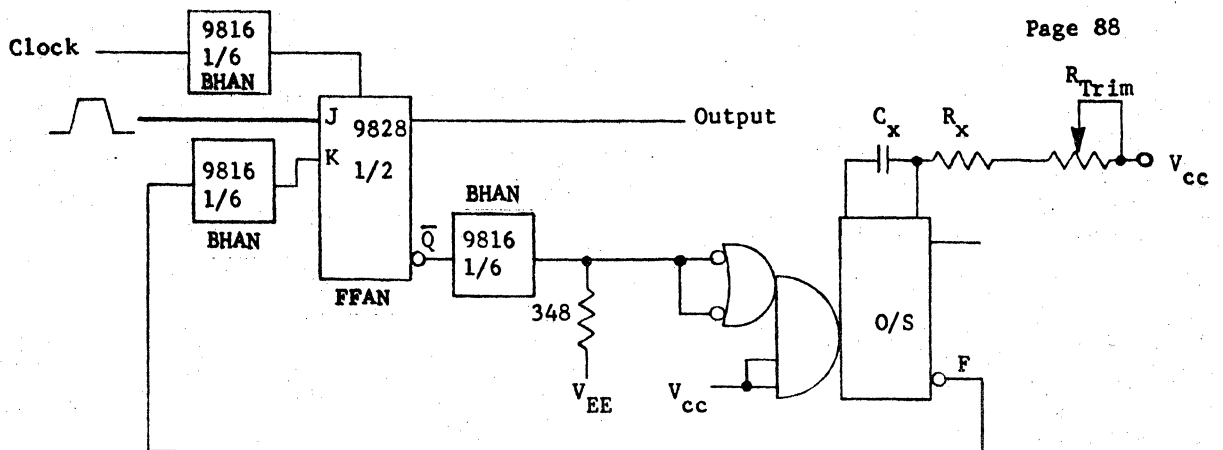

Fig. 8-8. SYNCHRONOUS TIMER
8.2.4.2 Synchronous Timer - The leading and trailing edge of the output pulse are synchronized with the trailing edge of the pulse clock. The circuit may be retriggered immediately after the conclusion of a timing cycle. The input signal must go true 15 nsec. prior to the trailing edge of the clock. Its pulse width may be of any duration. If the input pulse is longer than the output pulse plus 1 clock period, the circuit will retrigger and initiate a new timing cycle. (See Figures 8-8 and 8-9)